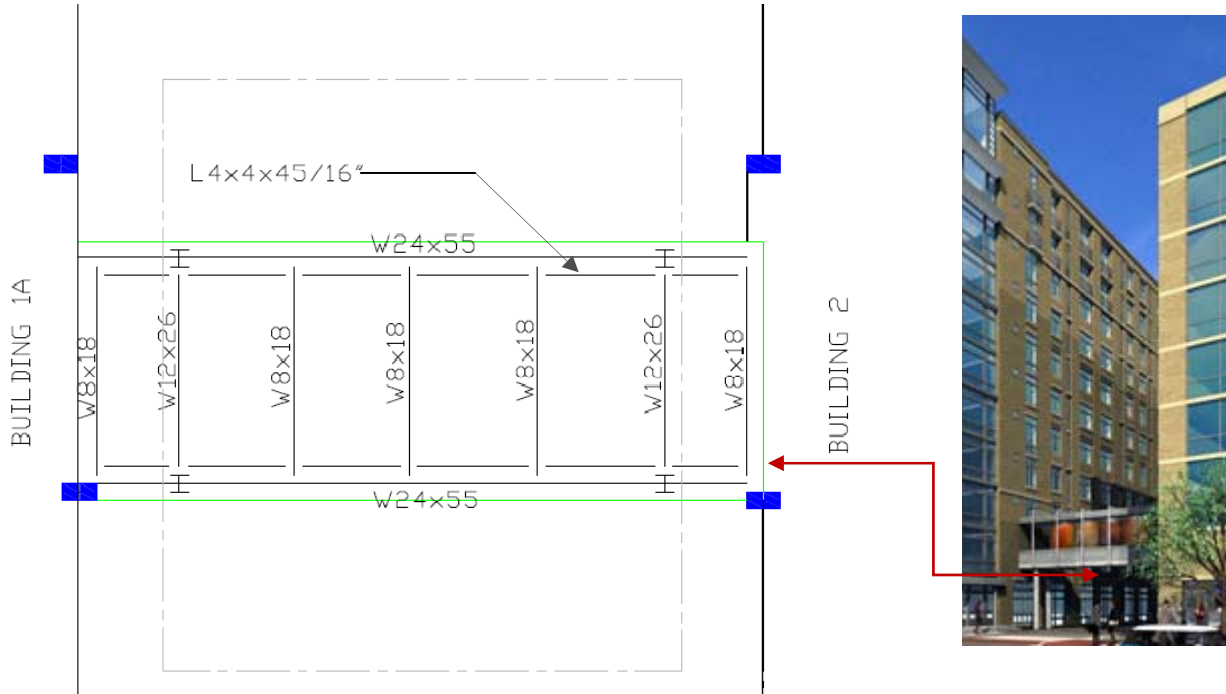

FIG. 1 : Bridge Framing Plan
The Pedestrian Bridge connects building 2 to building 1A and 1B, having a minimum clearance of 14' from grade. The footings serve double purpose, supporting the crane during construction, and then as the bridge footing. The footings are 5'-6" below grade with (20) HP 12x53x60'0 piles at 60-65ft. The pad is to be reinforced with 2 #10 each crane leg at mid depth. (Fig. 1) The bridge is supported by (4) W12x58 columns that tie into W24x55 concrete incased girder with full moment connection. Framed with composite beams constructed using (8) 24 3/4" Diam. 3 1/2" length shear studs spaced at 24" OC and cont. L4x4x5/16" angles coped and welded to beam ends. The floor slab is 3 1/2" of lightweight concrete on a 2" 20 gage galvanized metal deck. The slab is reinforced with #3@12' O.C x 6'-0" long. The roof is a non-composite steel frame system with full moment connections at column locations. The roof is a 1 1/2" 20 gage metal roof deck with insulation and rubber asphalt topping.